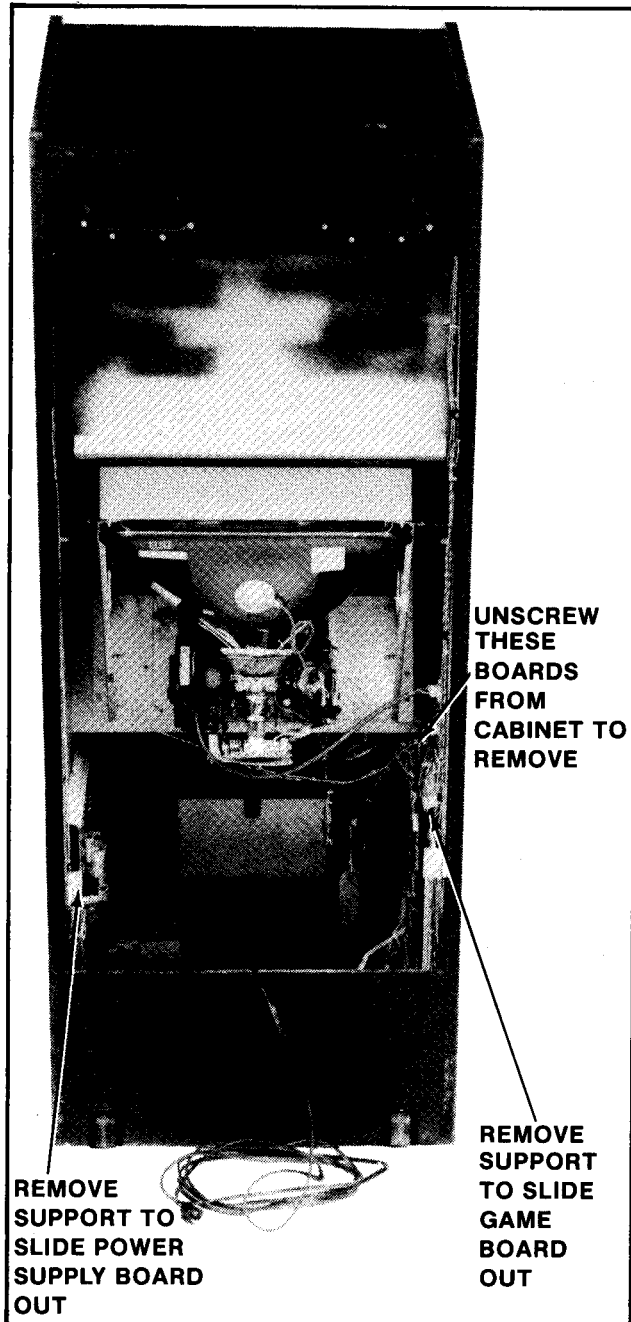

Figure 4-12 Removing P.C.B.s — Upright
### 1. UPRIGHT MODEL: See Figure 4-12.
- Disconnect the power supply board from all its cabling, remove the P.C.B. supports indicated in Figure 4-12, and slide it out the back of the cabinet.